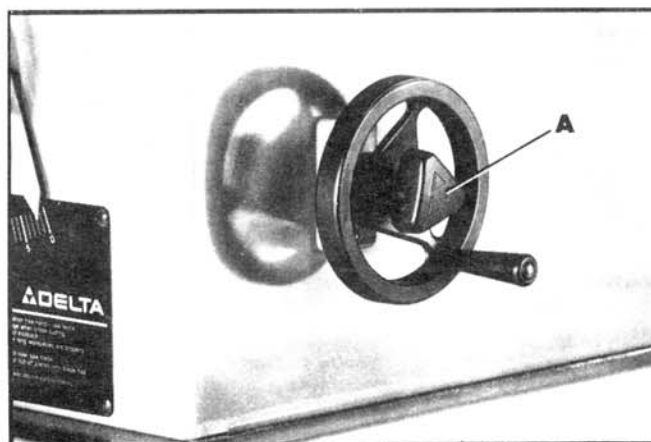

Fig. 6
2. Thread locking knob (A) Fig. 6, onto blade tilting shaft.
3. Fig. 6, illustrates the blade tilting handwheel and locking knob assembled to the saw.